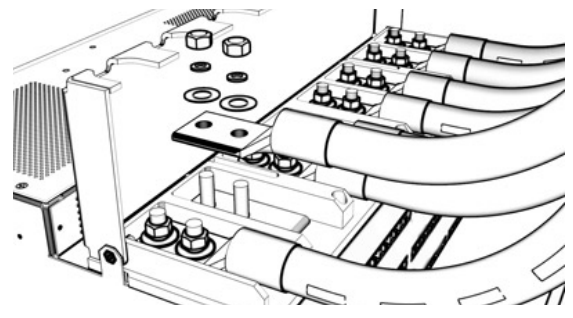

Figure 6. HOT Input Connections
Step 3. Install the HOT (-) cables/lugs to the threaded HOT (-) input studs as shown in Figure 6. Tighten hardware to 250 in-lbs.